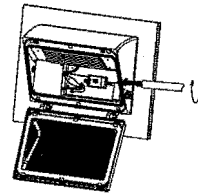

Fig. 14
10. Pull the wires from tube into fixture inside through side hole, and screw the NPT1#2 tube into the fixture body as shown in below Figure. (Fig. 14)